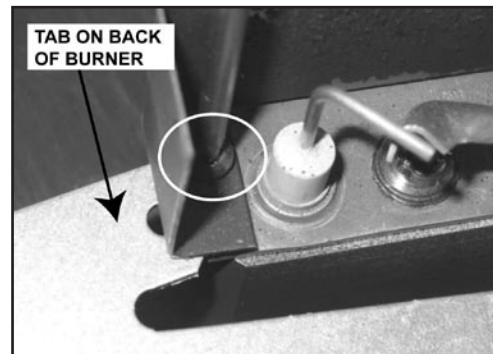

Figure 6.1
4. To remove the burner, loosen the front screw on the pilot bracket. Slide the tab on the left side at the back of the burner out from under the pilot bracket, and out of the firebox. (Fig. 6.1)